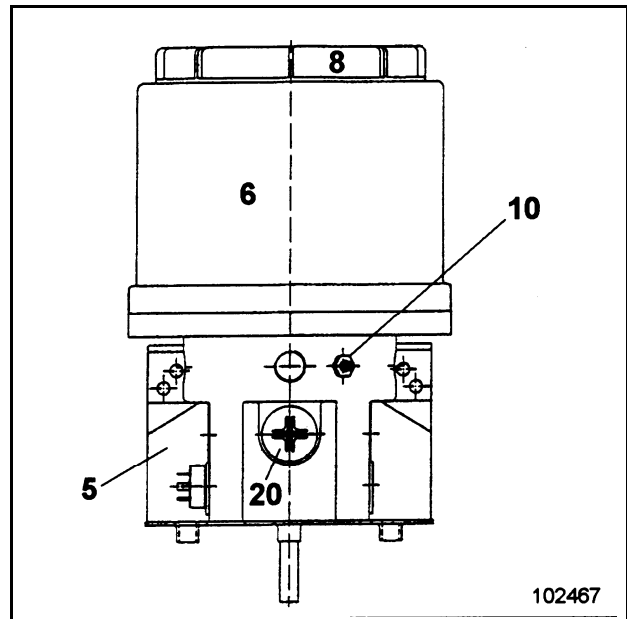

Fig. 3-101:
- that no grease escapes from the pressure-relief valves (9, Fig. 3-101:) and
If the amount of grease left in the container is insufficient, refill container through greasing nipple (10, Fig. 3-101:) with a manual grease gun or with a mobile service station. The filling pressure must be ca. 5 - 8 bars / 72-116psi.